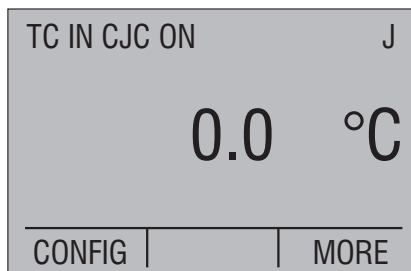

Figure 5. Measuring Temperature Using Thermocouple Terminals
1. Attach the thermocouple leads to the TC miniplug, and insert the plug into the input/output of the calibrator, as in Figure 5.